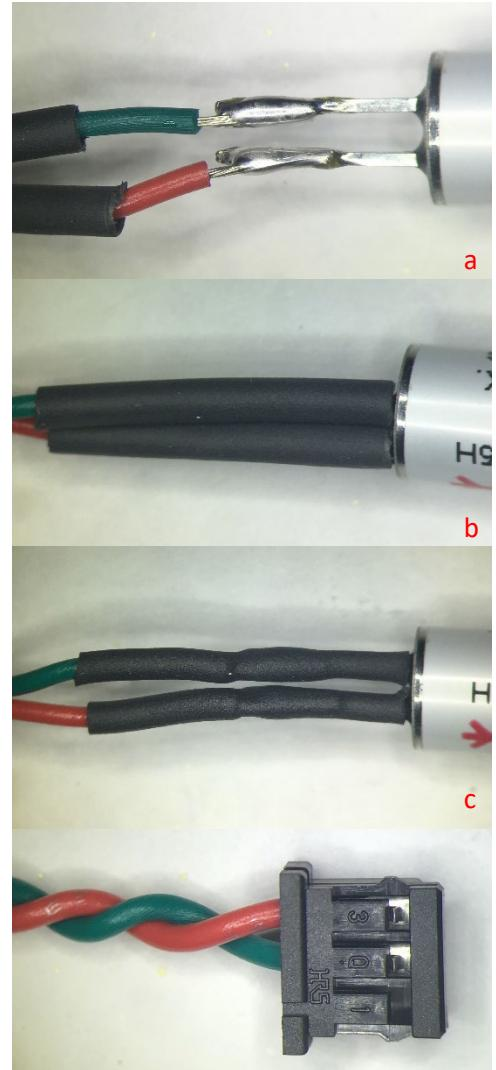

Figure 32 Adding leads to solenoid valve. a) solder b) slide on heatshrink c) shrink heatshrink d) insert receptacle - note which receptacle slot is empty
- See Figure 32 for an illustration of this process.